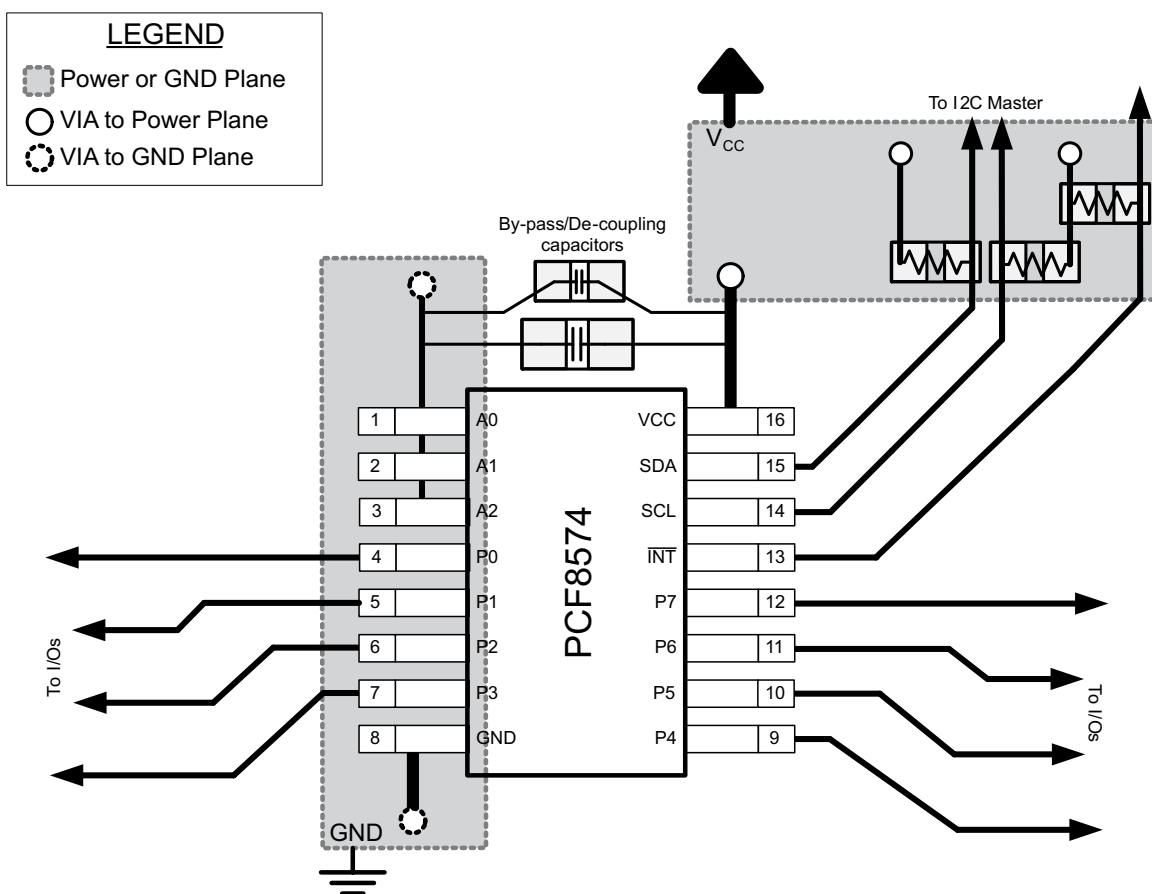

Figure 8-10. Layout Example for PCF8574
In all PCB layouts, it is a best practice to avoid right angles in signal traces, to fan out signal traces away from each other upon leaving the vicinity of an integrated circuit (IC), and to use thicker trace widths to carry higher amounts of current that commonly pass through power and ground traces. By-pass and de-coupling capacitors are commonly used to control the voltage on the VCC pin, using a larger capacitor to provide additional power in the event of a short power supply glitch and a smaller capacitor to filter out high-frequency ripple. These capacitors should be placed as close to the PCF8574 device as possible. These best practices are shown in Figure 8-10.
For the layout example provided in Figure 8-10, it would be possible to fabricate a PCB with only 2 layers by using the top layer for signal routing and the bottom layer as a split plane for power (VCC) and ground (GND). However, a 4 layer board is preferable for boards with higher density signal routing. On a 4 layer PCB, it is common to route signals on the top and bottom layer, dedicate one internal layer to a ground plane, and dedicate the other internal layer to a power plane. In a board layout using planes or split planes for power and ground, vias are placed directly next to the surface mount component pad which needs to attach to VCC or GND and the via is connected electrically to the internal layer or the other side of the board. Vias are also used when a signal trace needs to be routed to the opposite side of the board, but this technique is not demonstrated in Figure 8-10.